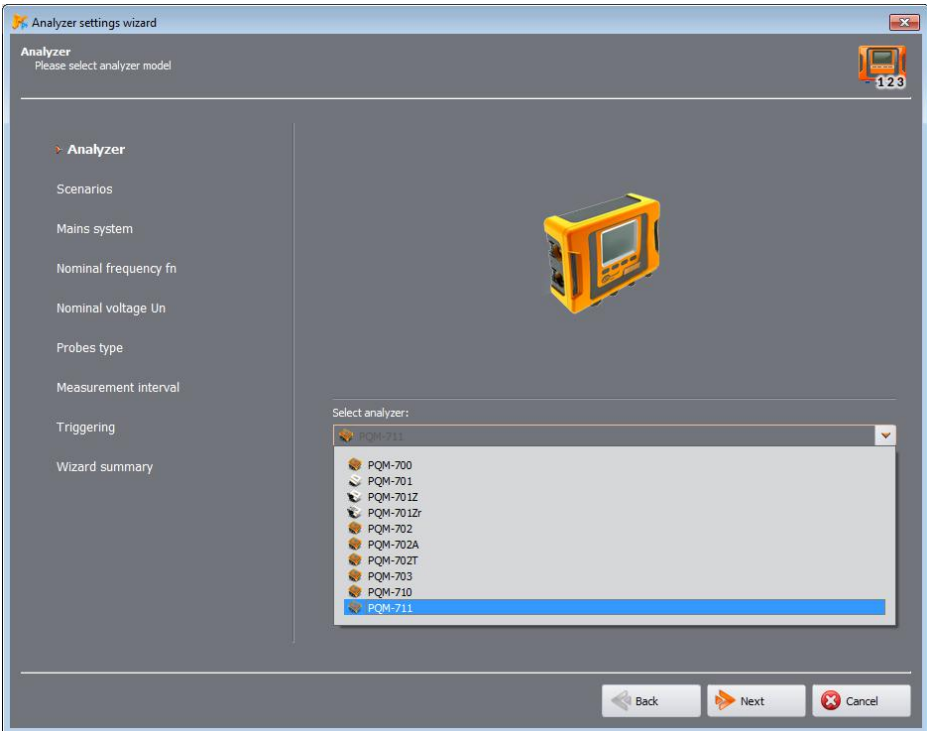

Fig. 13. Settings wizard – selection of analyzer.
- **ANALYZER** (Fig. 13) – in the first step of setting the analyzer, the user must select the type of analyzer to be set. This step is required due to differences in the measurement capabilities of individual analyzers.